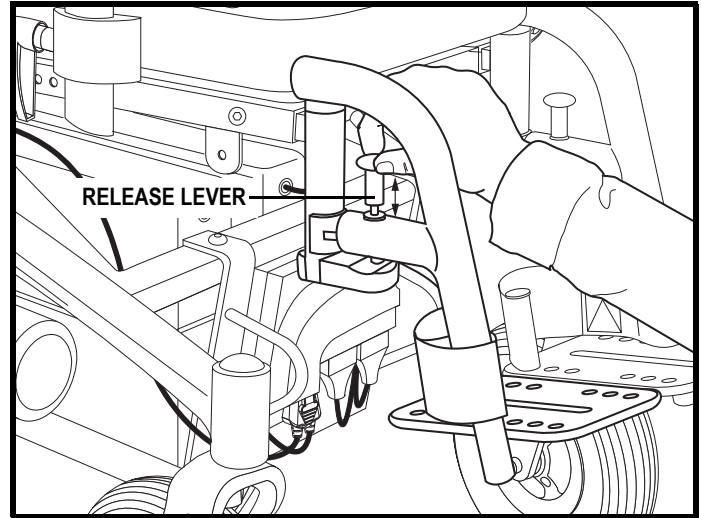

Figure 18. Swing-away Footrest
1. Pull the release lever. See **figure 18**.